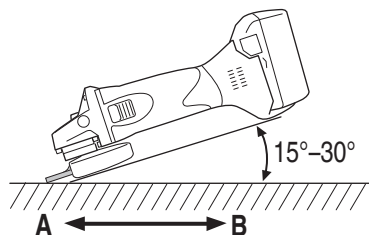

Fig. 13
4. Use proper grinding angle. Grind only with the wheel's edge by lifting the grinder 15° to 30° , as shown in **Fig. 13**.
When using a new depressed center wheel in direction A (**Fig. 13**), the wheel edge may cut into the workpiece. In this case, grind in direction B (**Fig. 13**). Once the wheel edge is worn, the workpiece can be ground in both directions.